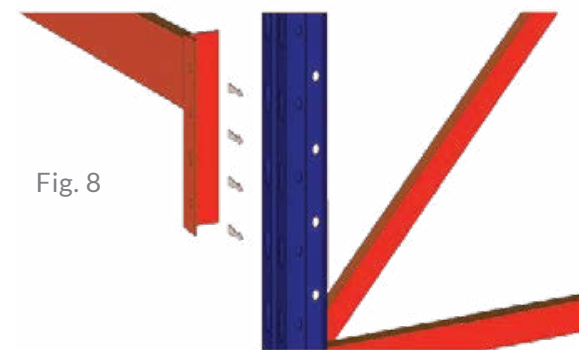

Fig. 8
Step 8 | Stand assembled frames on their feet and fit beams at desired heights, starting at the bottom and working up. The connections should slot into posts without force. Once in position they should be hammered in tight with a soft face hammer of reasonable weight. (Fig. 8)